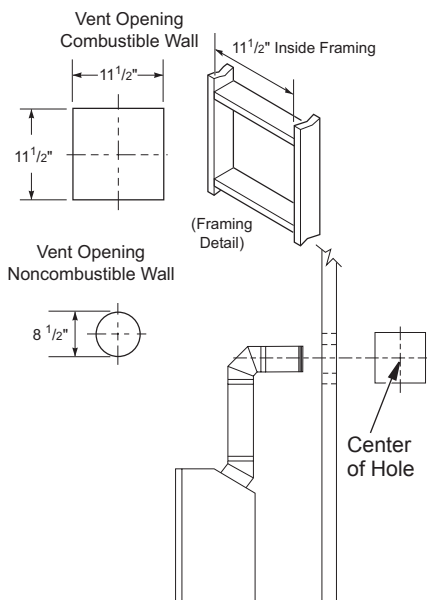
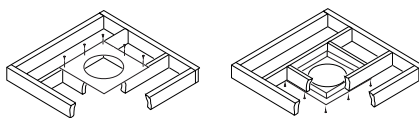

Figure 9 - Vent Opening Requirements
Figure 20 - Installing Firestop
5. Carefully determine the location where the vent pipe assembly will penetrate the outside wall. The center of the hole should line up with the center-line of the horizontal vent pipe. Mark the wall for a 11 1/2" x 11 1/2" square hole. Cut and frame the square hole in the exterior wall where the vent will be terminated. If the wall being penetrated is constructed of noncombustible material, such as masonry block or concrete, a 8 1/2" hole with zero clearance is acceptable (see Figure 9).
1. Cut a 11 1/2" square hole in the ceiling using the locating hole as a center point. The opening should be framed to 11 1/2" x 11 1/2" inside dimensions, as shown in Figure 9 on page 10 using framing lumber the same size as the ceiling joists. If the area above the ceiling is an insulated ceiling or an attic, nail firestop from the top side. This prevents loose insulation from falling into the required clearance space. If the area above the ceiling is a living space, install firestop below the framed hole. The firestop should be installed with no less than three nails per side (see Figure 20).
3. Cut a hole in the roof using the locating hole as a center point. (Cover any exposed open vent pipes before cutting hole in roof.) The 11 1/2" x 11 1/2" hole must be measured on the horizontal; actual length may be larger depending on the pitch of the roof. There must be a 1" clearance from the vent pipe to combustible materials. Frame the opening as shown in Figure 9, page 10.